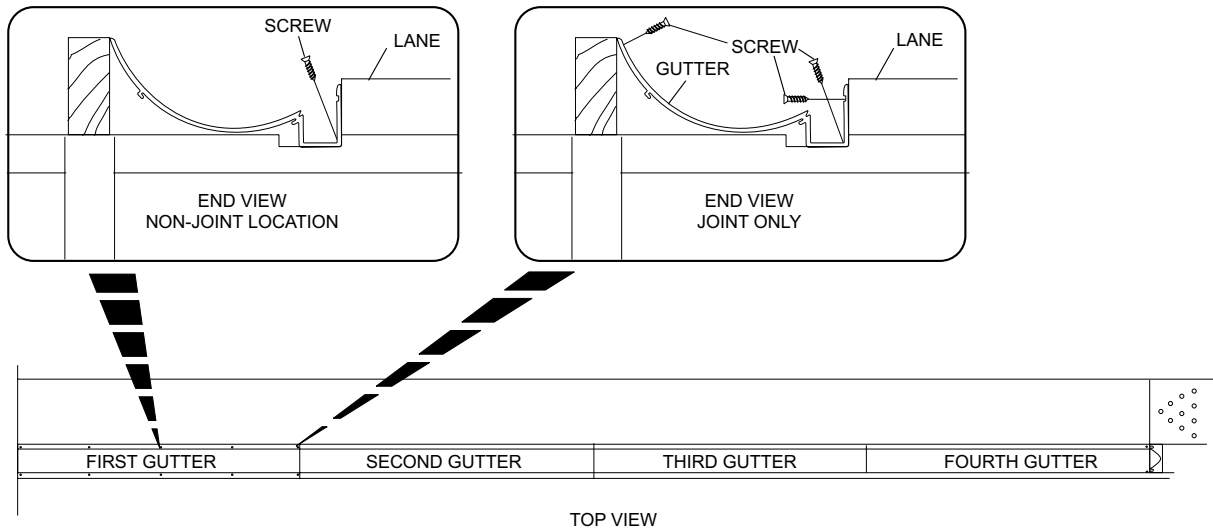

Figure 7
NOTE: It may be necessary to remove the ball return and division capping to allow the gutter to be removed. Refer to Figure 7.
- 16. Reinstall the first gutter section sliding it onto the coupler plates. Secure the gutter to the foundation using the original screws. Refer to *Figure 7*.